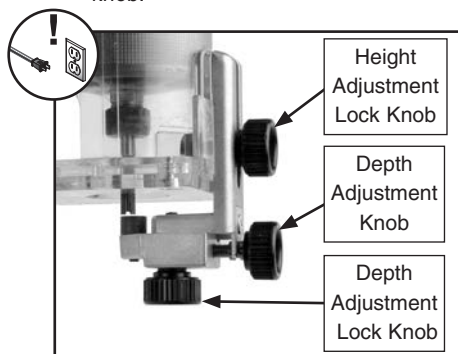

Figure 12. Curved trim guide adjustments.
2. Slide trim guide onto base plate as shown in **Figure 12**, set guide height, and tighten height adjustment lock knob.